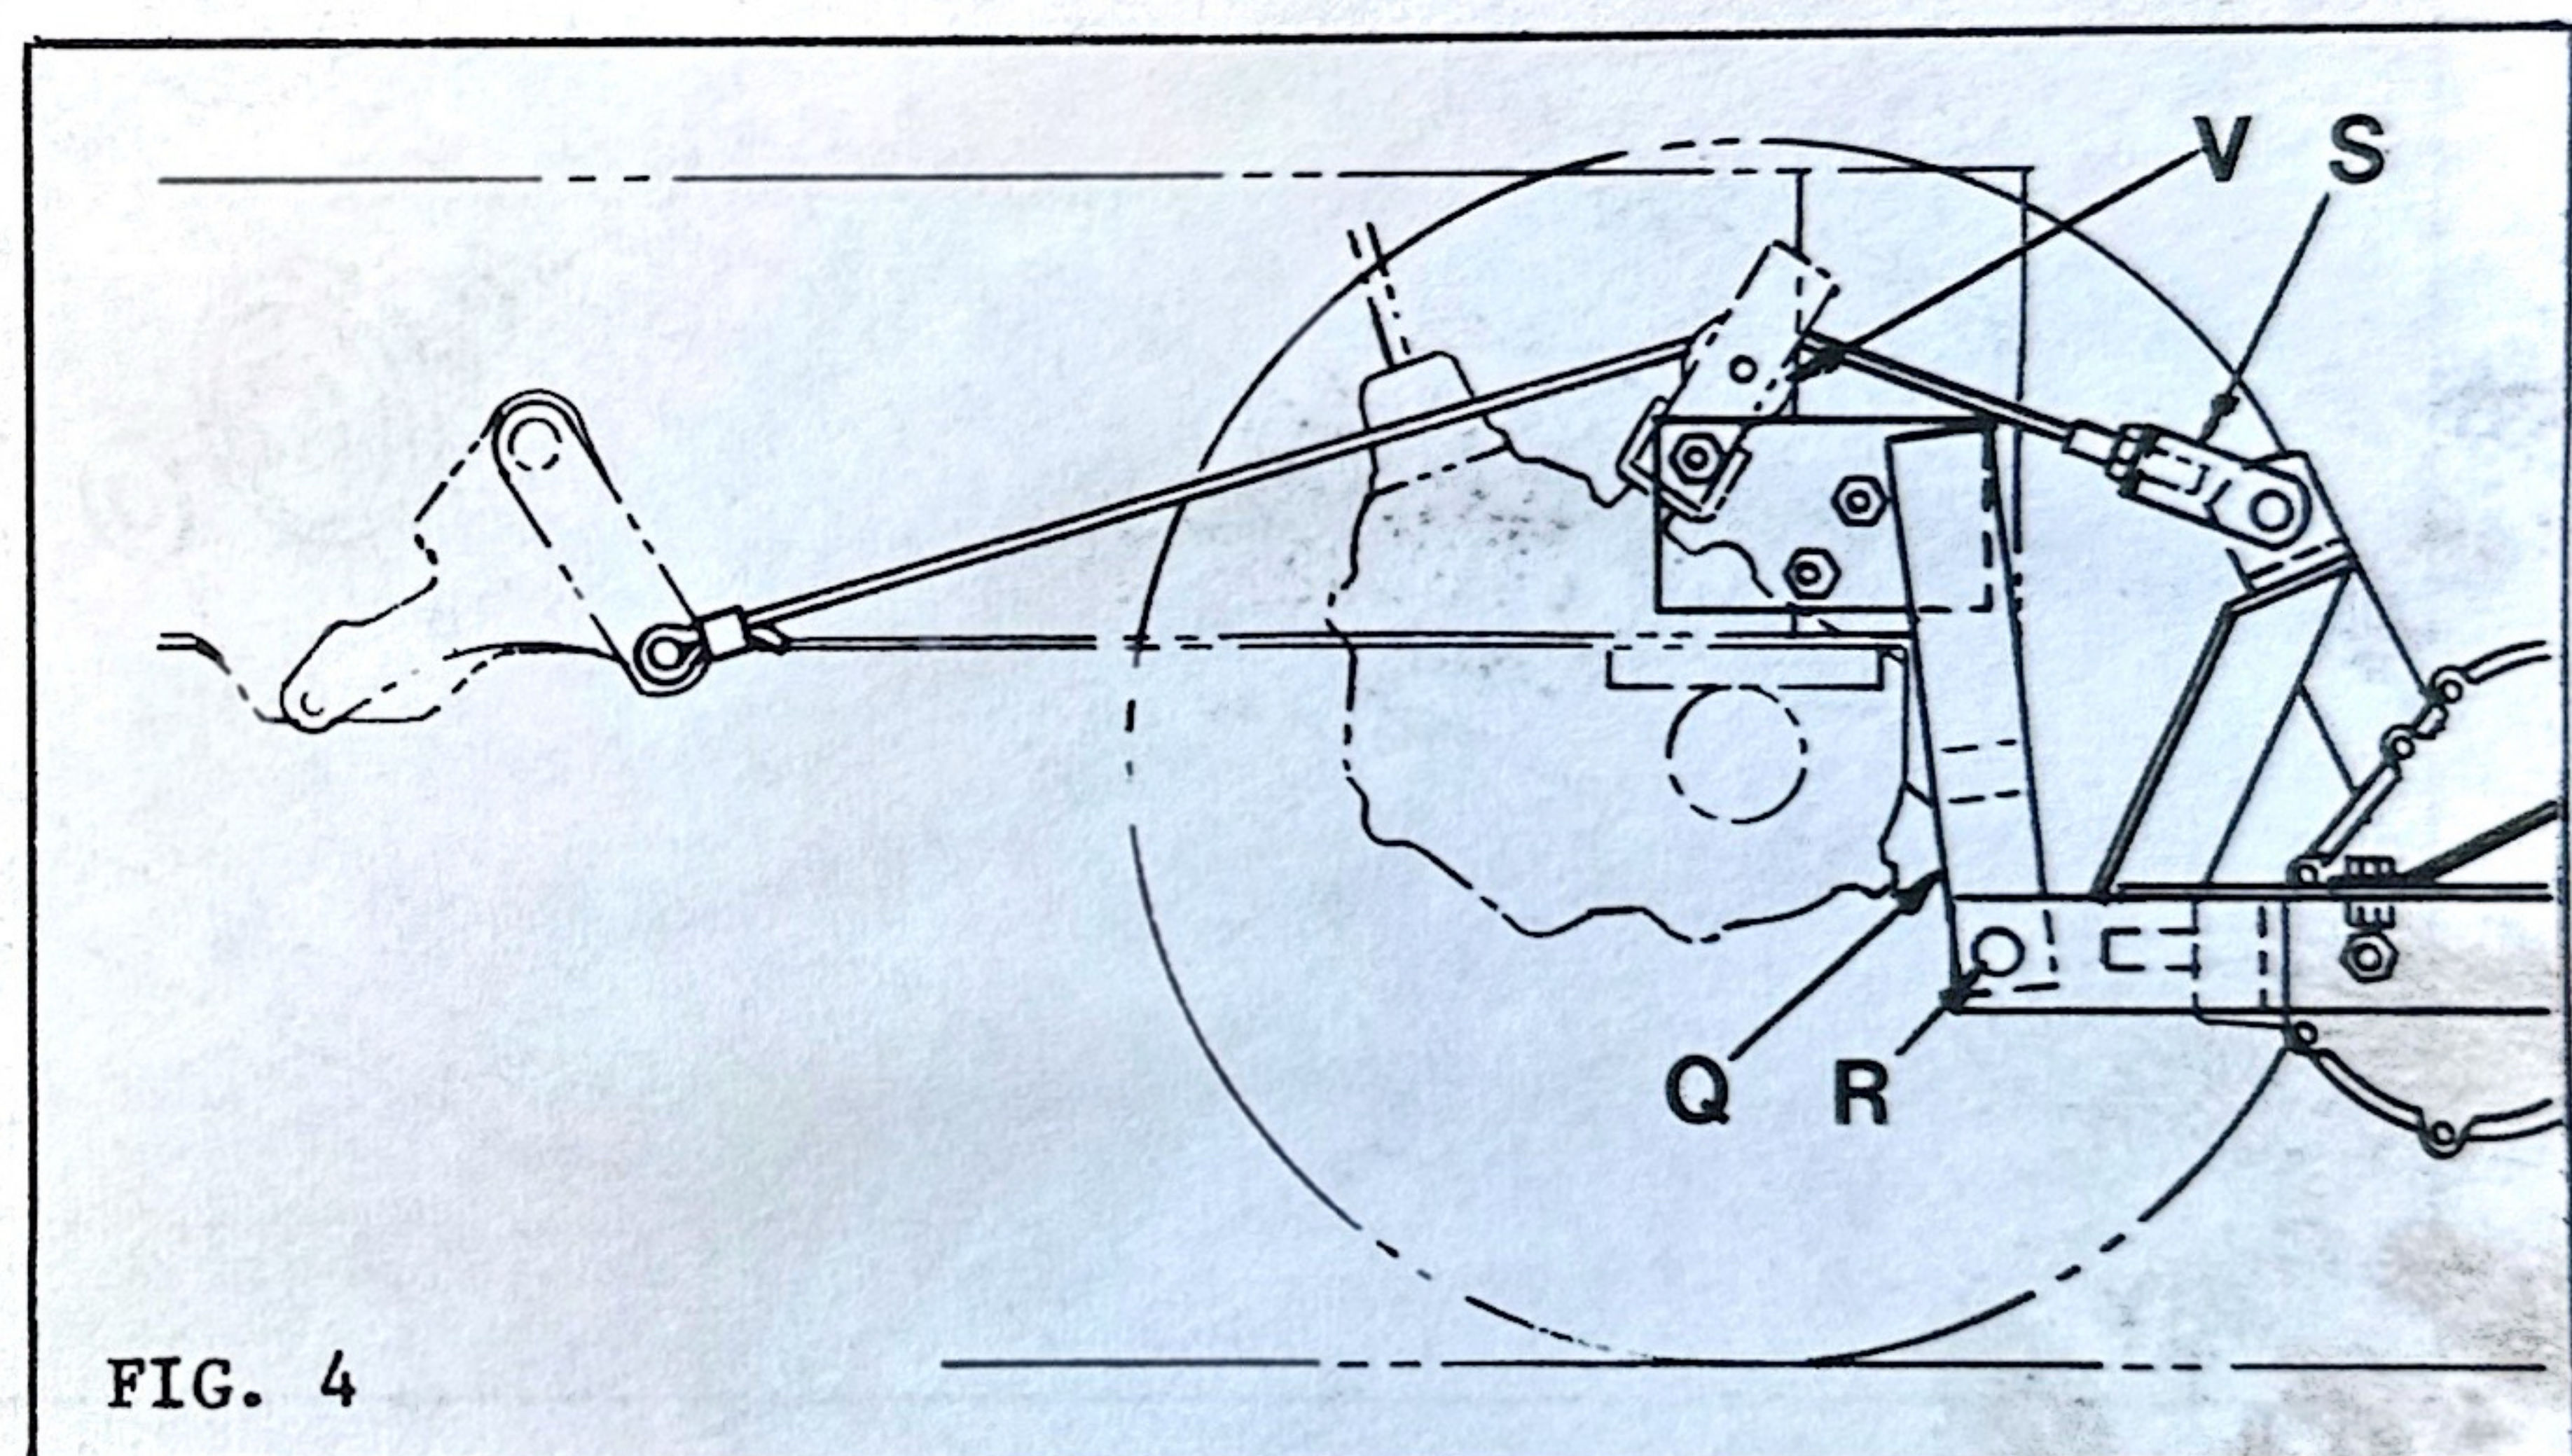

FIG. 4
37. On gear drive tractors route the cable over roller "O", Fig. 4, and secure between the lift arms with a 1/2 x 2-3/4 clevis pin and hitch pin.